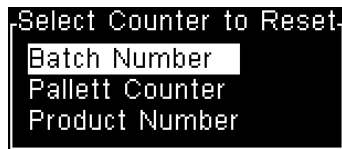

Figure 6-3: Select Counter to Reset Menu
- 3 Press Enter to open the Select Counter to Reset menu (Figure 6-3).